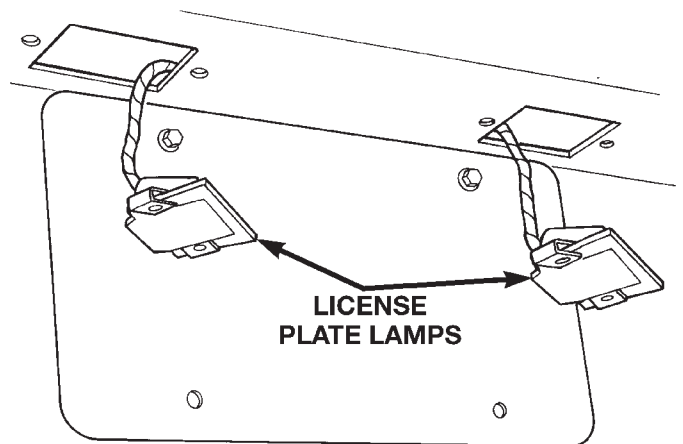

Fig. 10 License Plate Lamps
- (1) Remove screws holding license plate lamp to rear bumper fascia.
- (2) Separate license plate lamp from rear fascia (Fig. 10).
- (3) Rotate socket counterclockwise one quarter turn.
- (4) Pull socket from back of lamp.
- (5) Pull bulb from socket.